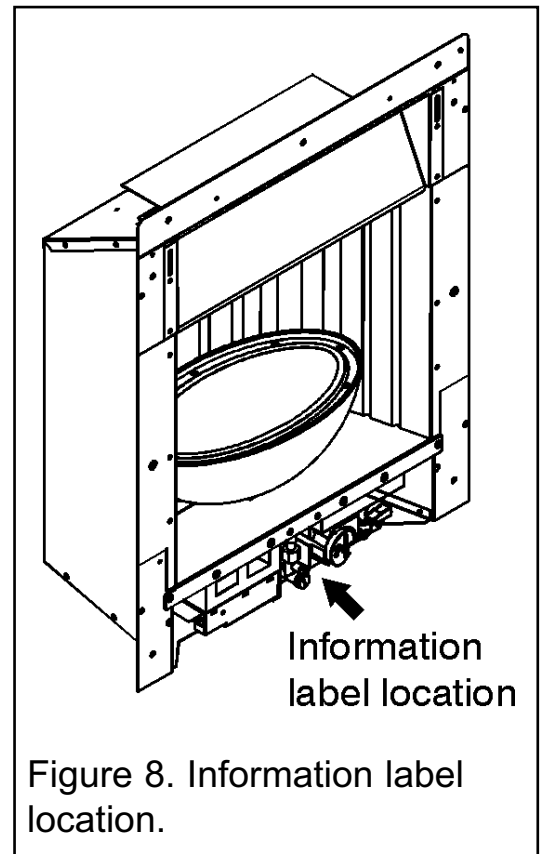

Figure 8. Information label location.
1. Fire serial number and fascia code (Located on the information label - See figure 8 on page 55).
Serial number (Can be found on the information label - See figure 8)